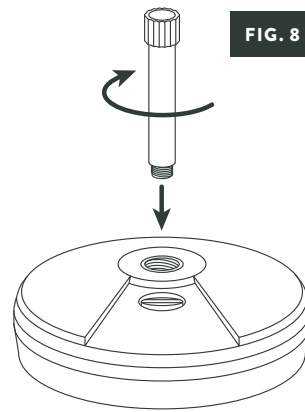

FIG. 8
2. Screw the umbrella pole into the base. (Fig. 8)